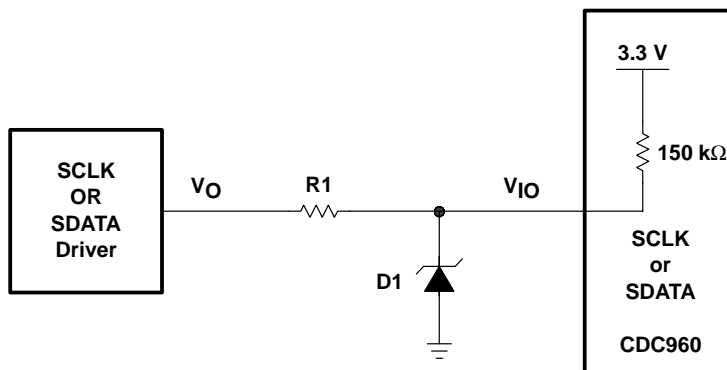
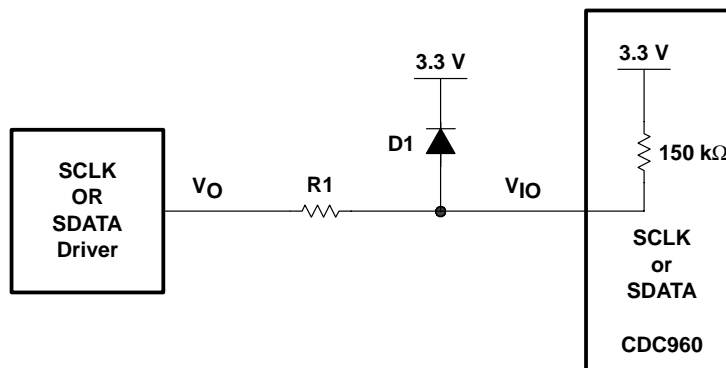

Figure 1. SCLK SDATA Connection to 5-V SMBus Using Zener Diode
Figure 2. SCLK SDATA Connection to 5-V SMBus Using Clamping Diode to V_{DD}
Zener diode D1 in Figure 1 is chosen such that the Zener voltage (V_{ZK}) cannot exceed 300 mV above V_{DD} of the CDC960. The minimum value of V_{ZK} must be greater than 2.1 V to meet minimum requirement for V_{IH} of the CDC960. The value of R1 is chosen to satisfy requirements both for I_{OH} of the driver of SCLK and SDATA and for V_{OL} and I_{OL} of SDATA of CDC960.
Diode D1 in Figure 2 should have a small forward voltage (V_F). Ideally, we want V_F to be less than 300 mV to meet the input voltage requirement of the CDC960. International IOR Rectifier has a device (part number 10BQ015) with maximum V_F of 350 mV at 1.0 A. Using the 10BQ015 with $R1 = 150\ \Omega$, the worst-case I_{OH} is calculated using equation (4).
When using the configuration in Figure 2, the power supply is required to have a capability of sinking current. The total amount of sinking current is dependent on the overall load connected to that power supply.
Using the above interface circuitry with a high-impedance source, the available high-level voltage on the SMBus is limited to about (V_Z) for the configuration in Figure 1 and $(V_{DD}(\text{CDC960}) + V_F(\text{D1}))$ for the configuration in Figure 2. One has to choose which option best fits a given SMBus configuration.
Actually, the typical SMBus configuration is an open-drain configuration with pullup resistors to the corresponding power supply. It does not require a 5-V SMBus driver that has a low impedance to drive the CDC960 SMBus ports with its additional components as shown in Figure 1 and Figure 2. The external components are not needed if the pullup resistors of the SMBus are directly connected to a voltage equal to the supply voltage of the CDC960 (typically 3.3 V). This pullup resistor connection is strongly recommended.